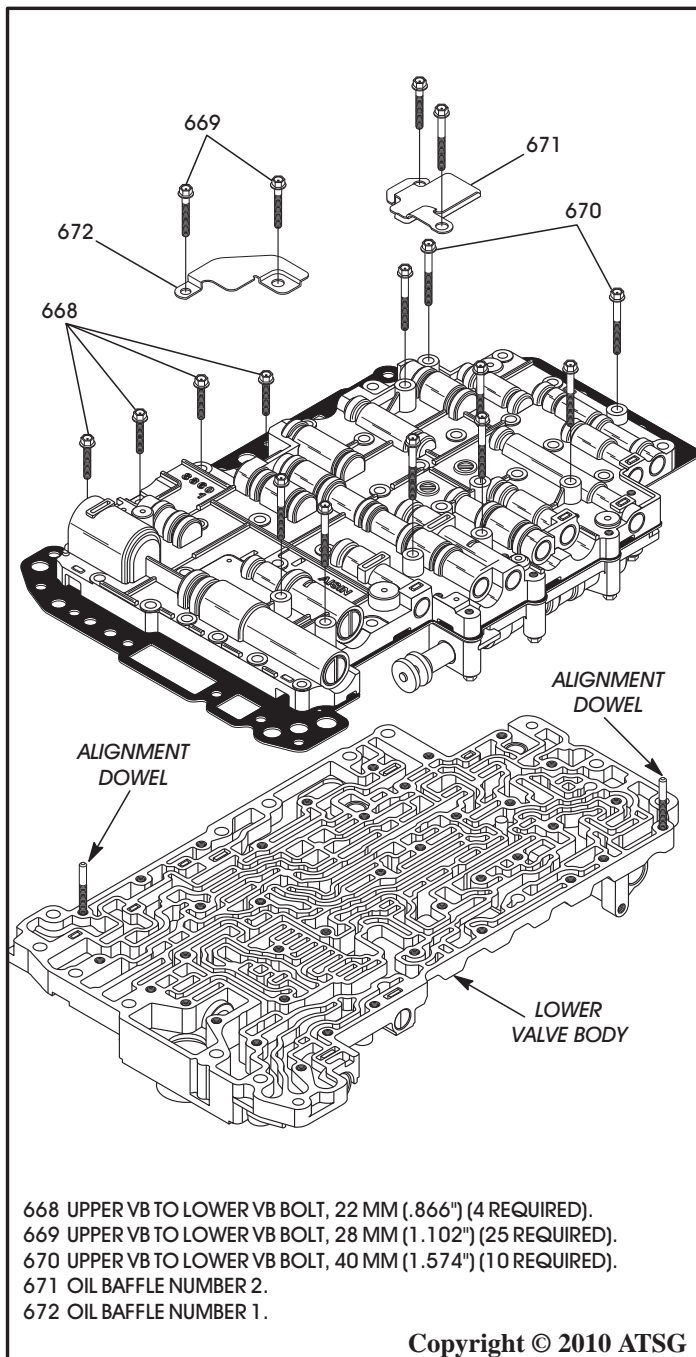

Figure 181
27. Install the same two alignment dowels in lower valve body in the positions shown in Figure 181.
28. With all small parts in their proper positions in the lower valve body, install upper valve body and spacer plate assembly over the alignment dowels and onto the lower valve body, as shown in Figure 181.
30. Remove the alignment dowels and install the remaining bolts and oil baffles in their proper positions, as shown in Figure 181.